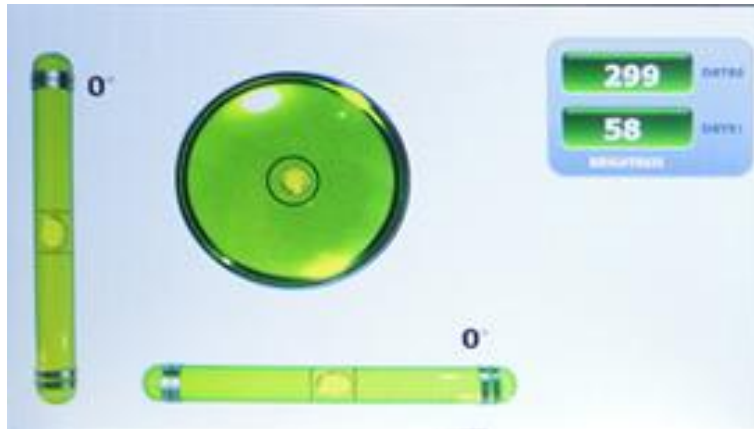

Figure 4-17 Digital Accelerometer demonstration
- Tilt the VEEK-MT2 to all directions, and you will find that the angle of the g-sensor and value of light sensor will change. When turning the board from -80° to -10° and from 10° to 80° in Y-axis, or from 10° to 80° and from -80° to -10° in Y-axis, the image will invert **Figure 4-17** shows the demonstration in action.